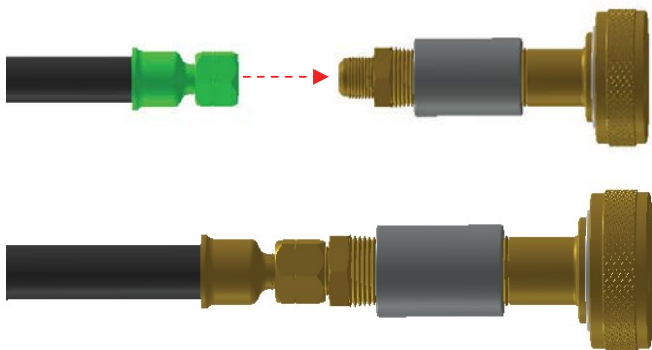

Figure 6
- 5) Connect service evacuation hose to the liquid evacuation adapter. **Torque: Fully Seated Not Stripped, Not Leaking. Figure 6**